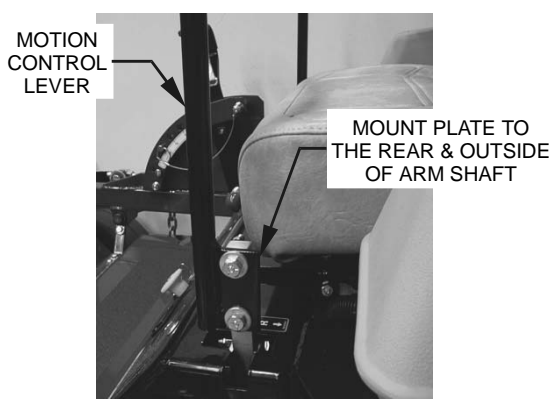

FIGURE 5
3.6.1 Loosen and remove the two (2) 3/8"x1" bolts and spring disk washers which attach the motion control levers to the control arm shafts for shipping and the two (2) 3/8" x 1" bolts and spring disk washers which are screwed into the control arm shafts.
- a) Install the left motion control lever onto the control arm shaft (See Figure 5) on the left side of the console. Place the lever (with the mounting plate towards the rear) on the **outside** of the control arm shaft and secure with the bolts and washers. Position the lever so the bolts are in the center of the slots on the lever mounting plate and tighten until snug. Repeat on opposite side of unit.